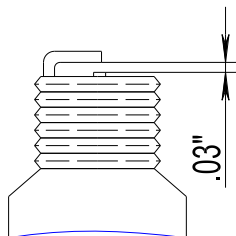

FIG 26
6.9.4 Set the gap between the electrodes on the spark plug at 0.03 inch (0.76mm). (FIG 26)